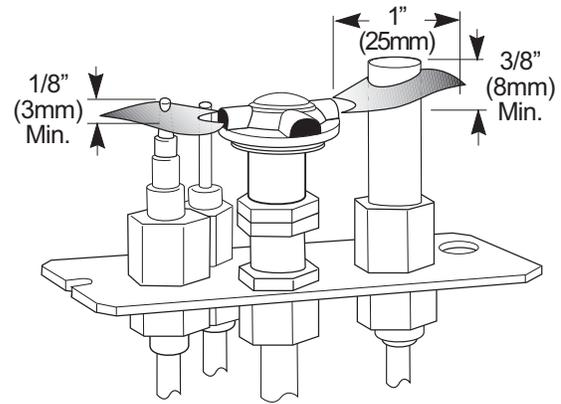

Figure 37. Proper pilot flame appearance.
2. PILOT FLAME: You can monitor the pilot flame through the view port located at the rear of the Right Log. See fig. 37. The pilot flame should be steady - not lifting or floating. The flame should be blue in color around the pilot hood, with traces of yellow toward the outer edges.
The pilot flame should engulf the top 3/8" of the thermopile (to generate millivolt current) and the top 1/8" of the thermocouple. The pilot flame should project out of the pilot hood 1" at all three ports. See fig. 37.